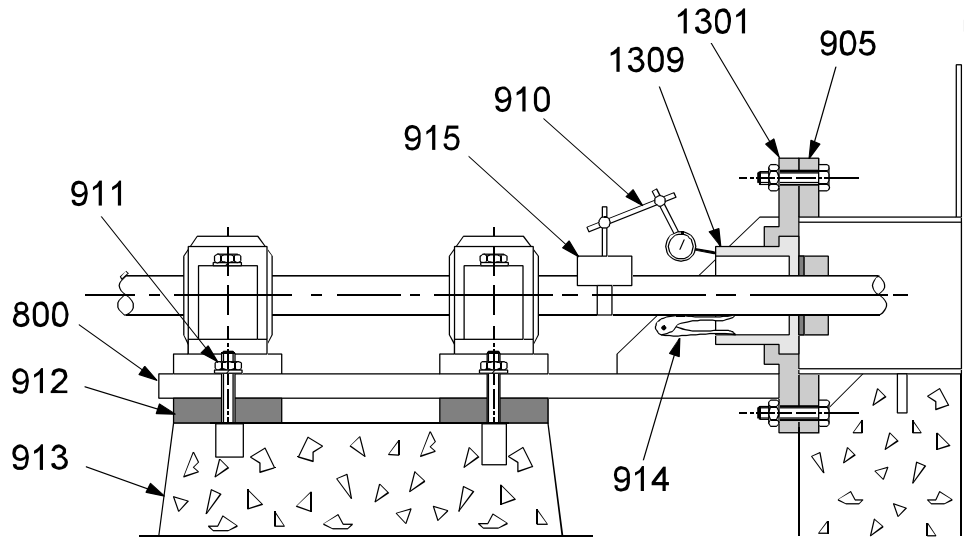
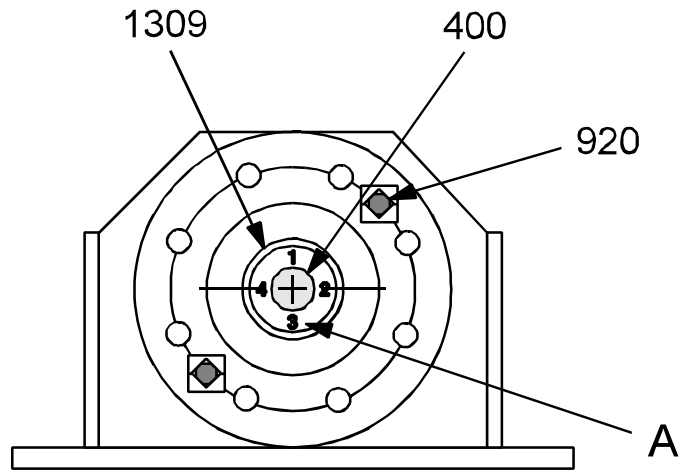

Figure 30: Perpendicular Alignment
Figure 31: Concentric Alignment
3. Check the shaft to stuffing box perpendicularity by clamping a small dial indicator (910) to the shaft as shown in **Figure 30**. Take readings on the stuffing box housing (1320 or 1330) face at four equally spaced positions by turning the shaft by hand. The total indicated reading (T.I.R.) must not exceed 0.010 inch (0.25 mm), excluding surface irregularities.
4. If the total indicated reading exceeds the limits adjust the level of the baseplate (800) by backing off the hold down nuts (911) and shim as required until the variance of the readings fall within the limit. The same result can also be achieved by adjusting the leveling nuts or leveling bolts if applicable.
5. Using inside calipers (914) or feelers, measure the distance between the shaft and shaft sleeve. The stuffing box housing bore (1329 or 1339) at four equally spaced positions. Variation of these measurements must not exceed 0.010 inch (0.25 mm), **Figure 31**, page 81.
6. Set the shaft to stuffing box concentricity within the 0.010 inch (0.25 mm) limit by unfastening the two positioning bolts (920) that connect the stuffing box flange (1320 or 1330) to the agitator frame. Allowing free movement before making this adjustment may be necessary to back-off all of the nozzle/wall insert fastening nuts.